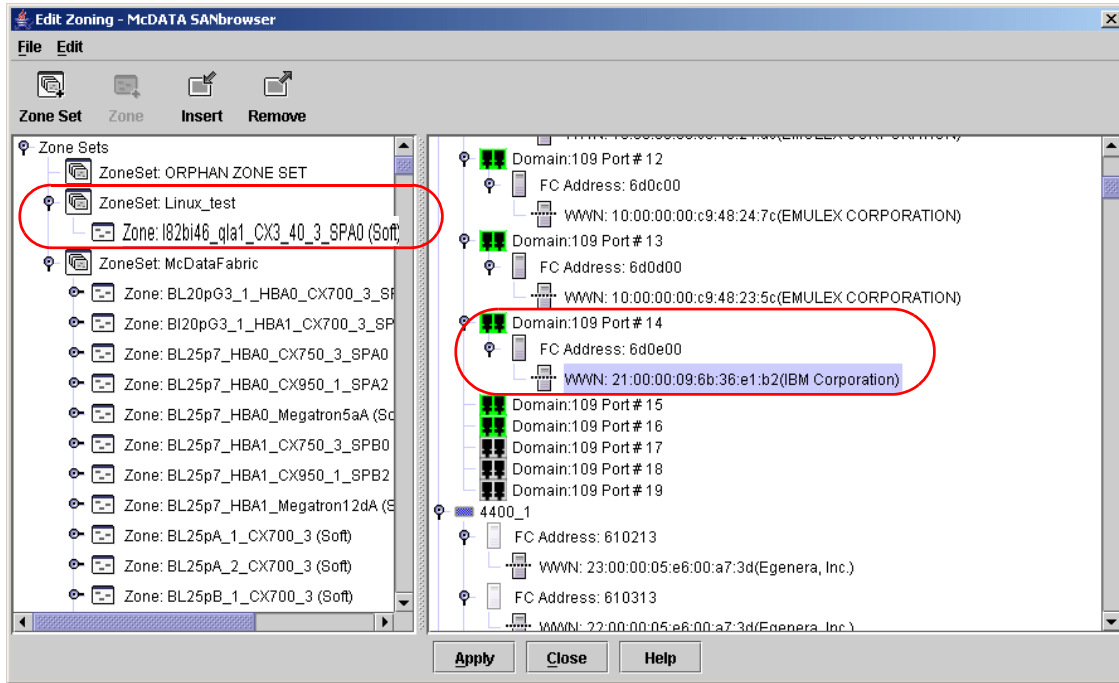

Figure 8-23 Creating I82bi46_qla1_CX3_4D_3_SPA0 zone window
14. in the Create a zone dialog box, enter a name in the Zone Name field. In our example, we typed I82bi46_qla1_CX3_4D_3_SPA0. Click **OK**. You will then see a window similar to Figure 8-23.